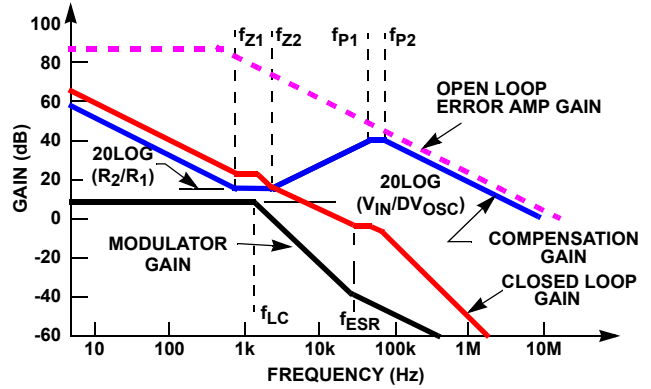

FIGURE 49. ASYMPTOTIC BODE PLOT OF CONVERTER GAIN
Figure 49 shows an asymptotic plot of the DC/DC converter's gain vs frequency. The actual modulator gain has a high gain peak due to the high Q factor of the output filter and is not shown in **Figure 49**. Using the guidelines provided should give a compensation gain similar to the curve plotted. The open-loop error amplifier gain bounds the compensation gain. Check the compensation gain at f_{P2} with the capabilities of the error amplifier. The closed-loop gain is constructed on the graph of **Figure 49** by adding the modulator gain (in dB) to the compensation gain (in dB). This is equivalent to multiplying the modulator transfer function to the compensation transfer function and plotting the gain. The compensation gain uses external impedance networks Z_{FB} and Z_{IN} to provide a stable, high bandwidth (BW) overall loop. A stable control loop has a gain crossing with -20dB/decade slope and a phase margin greater than $+45^\circ$. Include worst case component variations when determining phase margin. A more detailed explanation of voltage mode control of a buck regulator can be found in Tech Brief **TB417**, entitled "Designing Stable Compensation Networks for Single Phase Voltage Mode Buck Regulators".